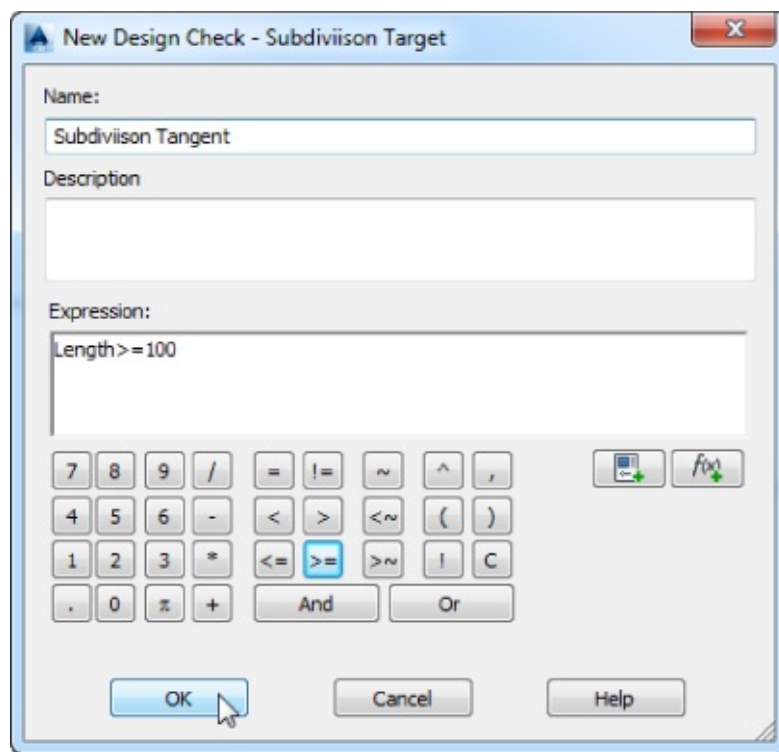

Figure 6.24 The completed Subdivision Target design check
6. Click the greater-than/equals symbol (\geq) button, and then enter **100** (for metric, **30.48**) in the Expression field, as shown in Figure 6.24.
When complete, your dialog should look like Figure 6.24. Click OK to accept the settings in the dialog.